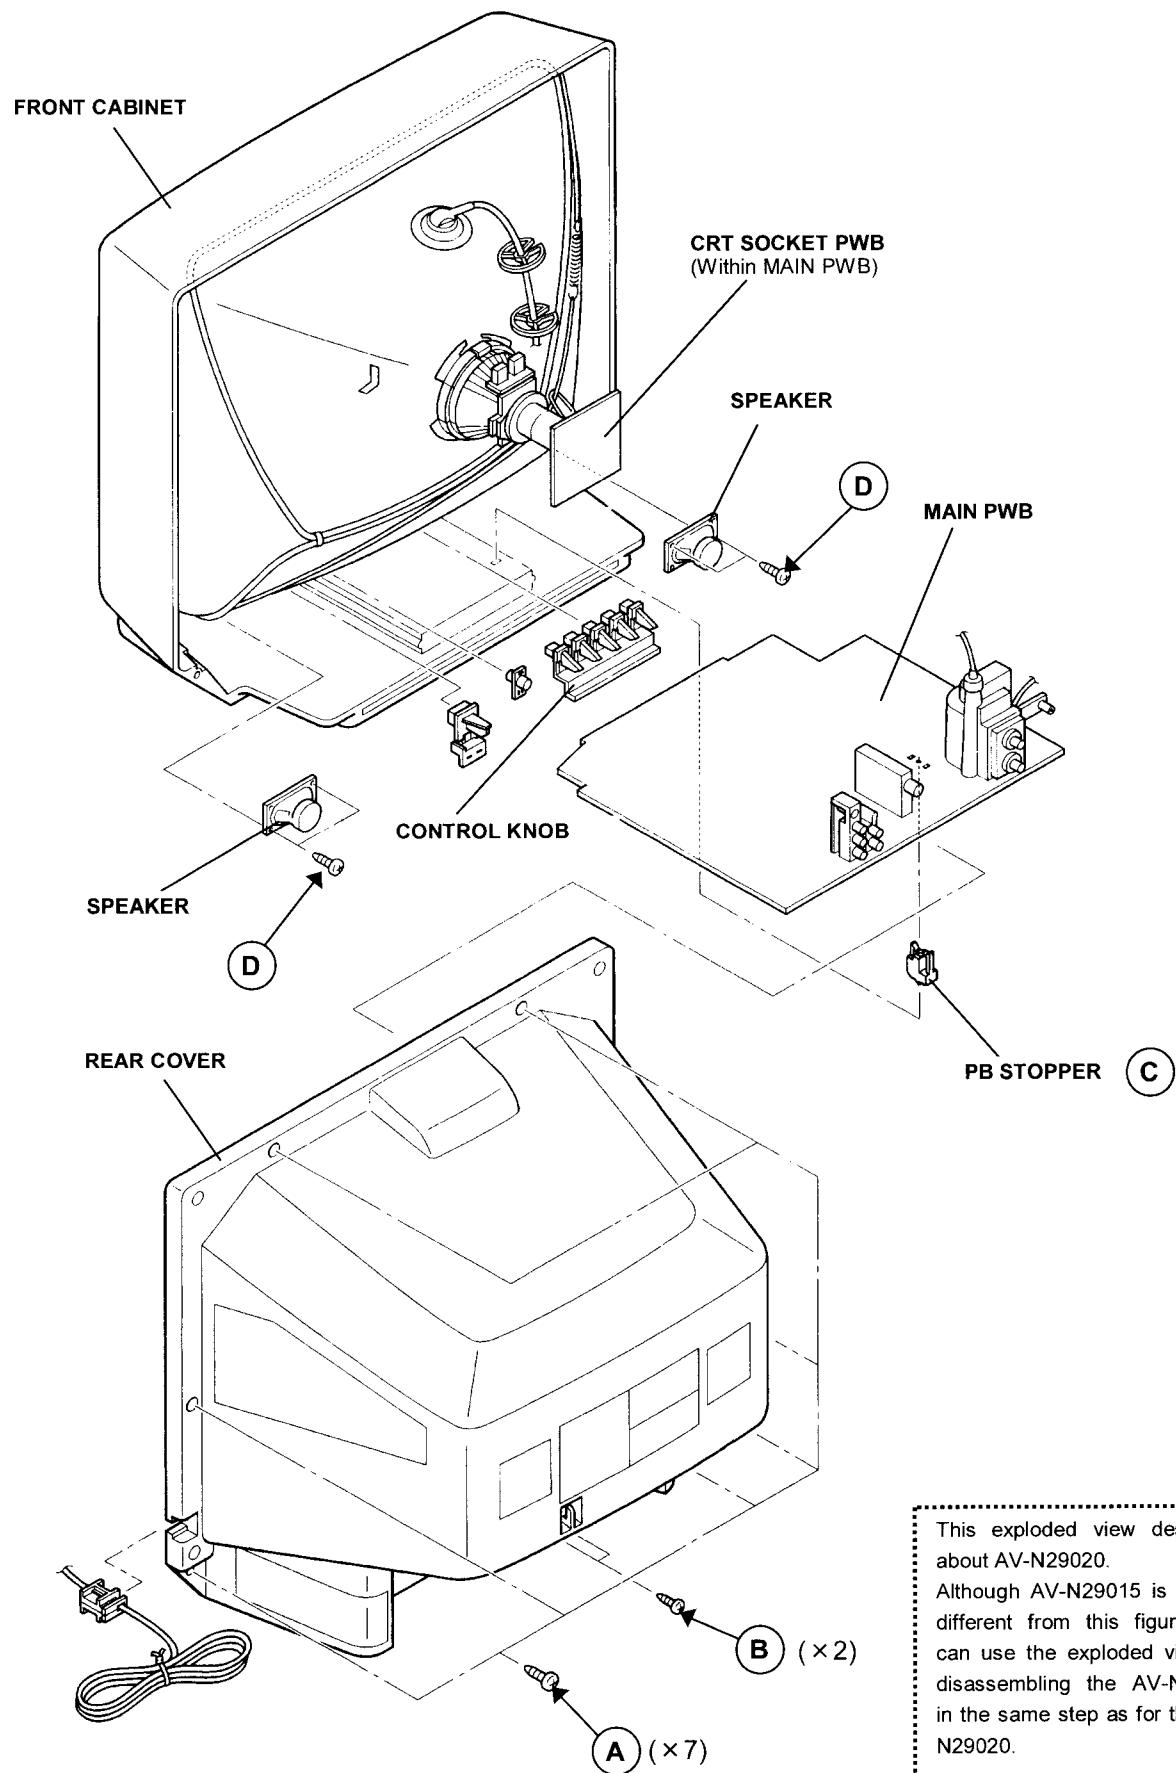

Fig.1
2. Remove the 7 screws marked **(A)** and 2 screws marked **(B)** as shown in Fig.1.
2. Remove the 7 screws marked **(A)** and a screw marked **(B)** as shown in Fig.1.
1. Remove the 2 screws marked **(D)** as shown in Fig.1.
(4) System constant check and setting 1) Press SLEEP TIMER key and, while the indication of "SLEEP 0 MIN." is being displayed, press DISPLAY key and VIDEO STATUS key on the remote control unit simultaneously. 2) The SERVICE MENU screen of Fig.1 is displayed. 3) While the SERVICE MENU is displayed, again simultaneously press the DISPLAY and VIDEO STATUS keys to display the Fig.2 SYSTEM CONSTANT screen. 4) Refer to the SYSTEM CONSTANT table and check the setting items. Where these differ, select the setting item with the MENU UP/DOWN key and adjust the setting with the MENU LEFT/RIGHT keys. (The letters of the selected item are displayed in yellow.) 5) After adjusting, release the MENU LEFT/RIGHT key to store the setting value. 6) Press the EXIT key twice to return the normal screen.	 Fig.1
(7) SERVICE MENU setting Verify what to set in the SERVICE MENU, and set whatever is necessary.(Fig.1) Refer to the SERVICE ADJUSTMENT for setting.